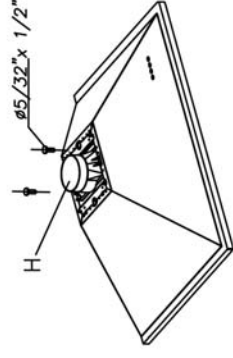

Fig. 1
- Use the two screws to attach the reducer pipe H to the upper platen (Fig. 1). Connect the 4,5" non-flammable pipe to the opening in the ceiling.